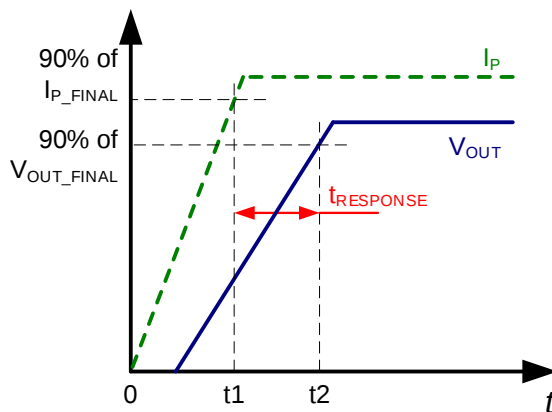

Figure 7: Response Time (t_{RESPONSE})
2. t_2 : V_{OUT} reaches 90% of its final value, as it corresponds to the applied I_P (see Figure 7).